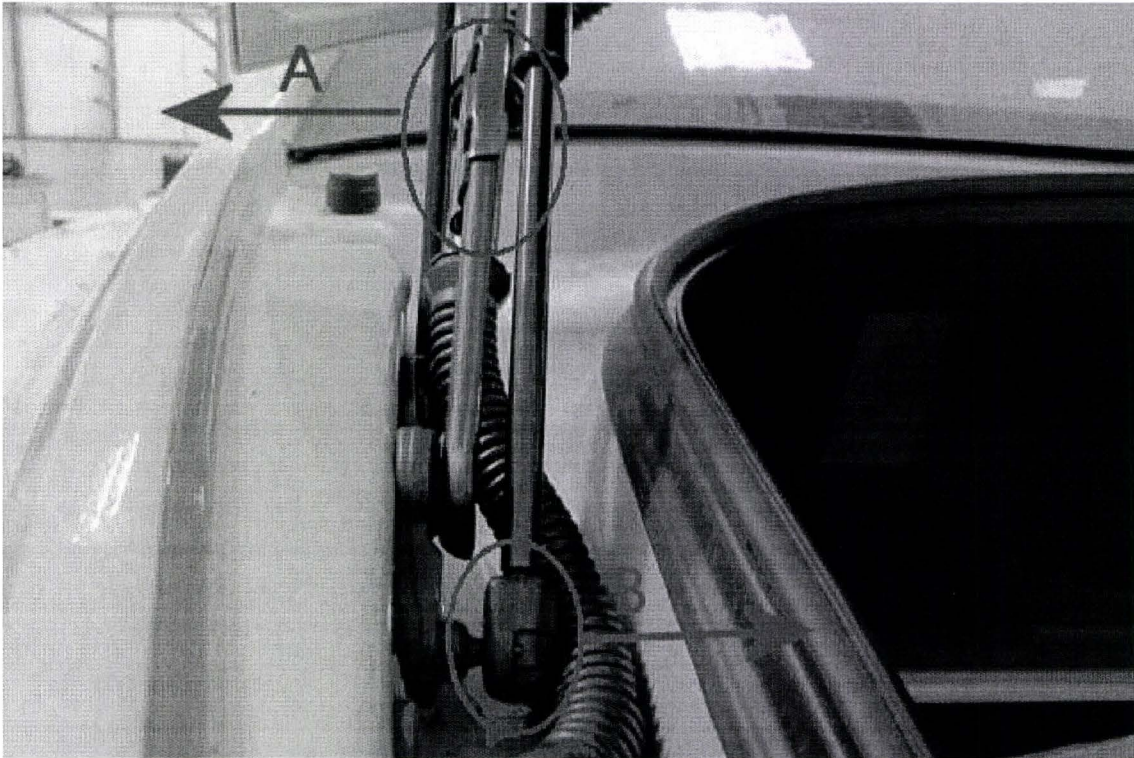

Figure 2
- Access to the boot hinge side fixings is tight, Referring to Figure 2 remove the loom clip from the hinge (Point A) and remove the lower boot strut (Point B) **WARNING:** Ensure the boot lid is propped up securely when the strut is removed